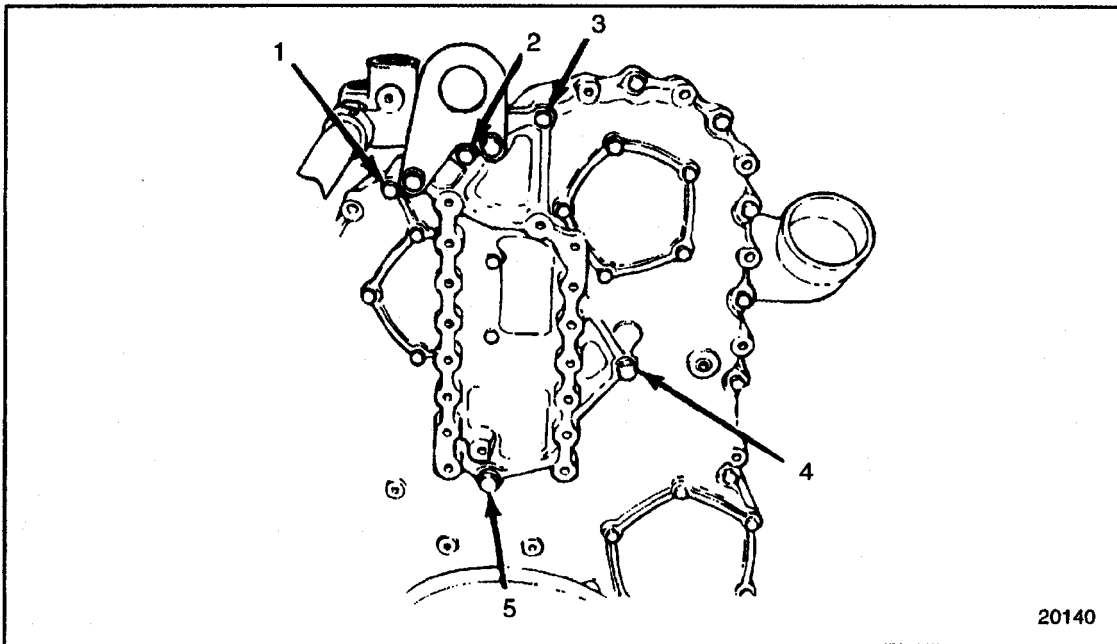

Figure 1-160 Fan Support Bolt Location
5. Remove the five fan support bolts. See Figure 1-160.